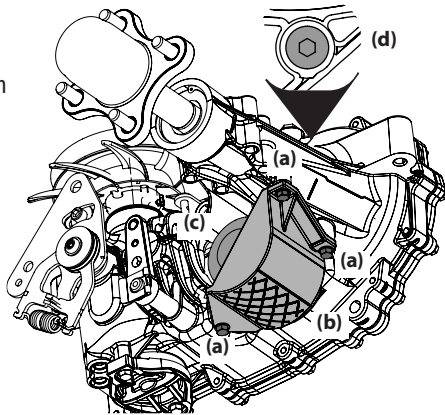

Figure 41
2. Remove the three filter guard screws (a) and the filter guard (b). Clean any loose debris from around the filter (c). See Figure 41.
8. Remove the top port plug (d) from the transaxles to allow the transaxles to vent during filling. See Figure 41.